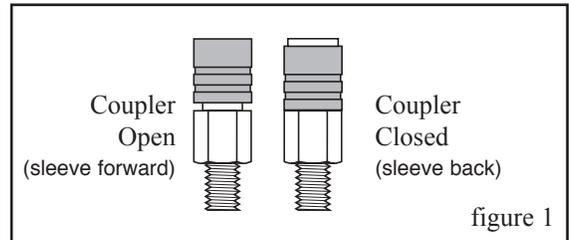

figure 1
**Caution: Couplers must be in the open position before connecting with pull studs. See figure 1. Coupler damage will result from improper set-up.**
4. Connect shop air lines to the pneumatic fittings that feed the FasTie couplers. **Couplers must be in the open position (see figure 1) before connection to pull studs, otherwise coupler damage will occur.**
5. Connect shop air lines to the pneumatic fitting for the coupler. **Coupler must be in the open position (see figure 1) before connection to the pull stud, otherwise coupler damage will occur.**